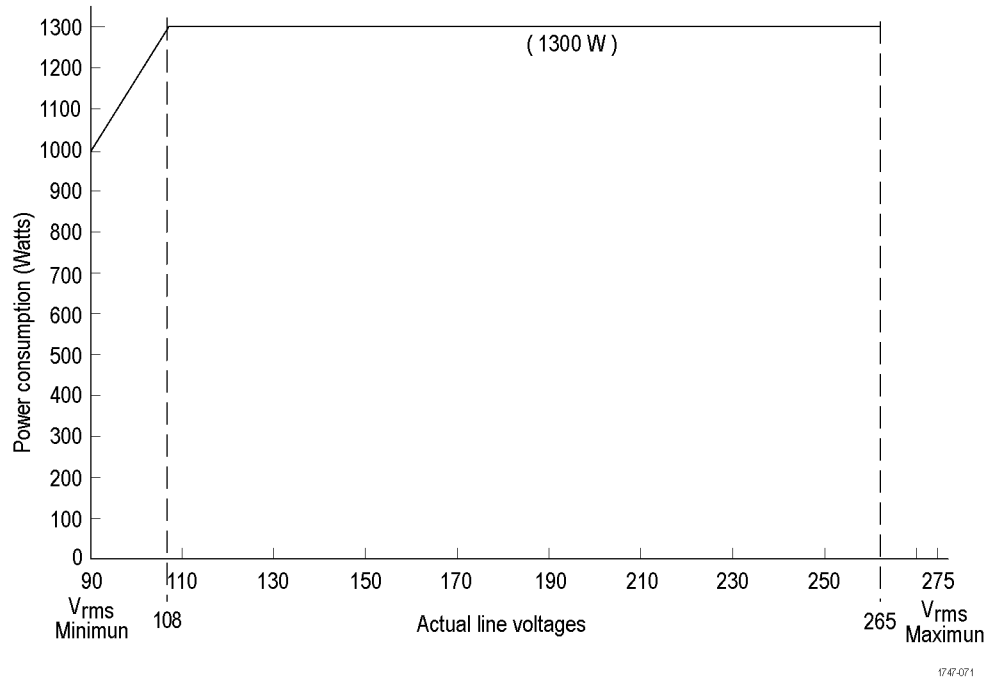

Figure 1: Maximum power allowed to modules at various line voltages for TLA7016 mainframes serial number B020000 and higher
3. Ensure that the total power consumption is less than the limits shown in the following table and illustration. (See Figure 1 on page 6.)